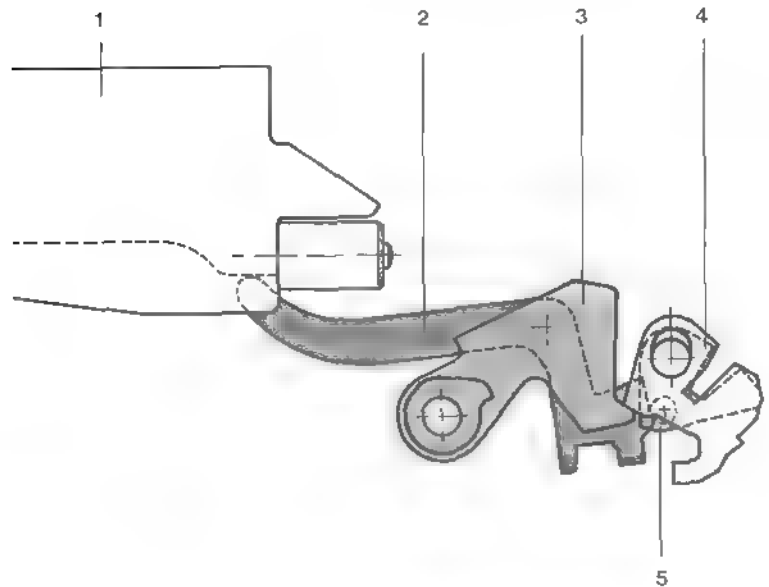

Figure 60
During the bolt advance, the bolt presses down the release bar (2). The sear (5) is thereby moved to the rear and releases the hammer (3) to the trigger rod (4). When the trigger is released, the trigger rod (4) moves to its upper end position (refer to figure 60).